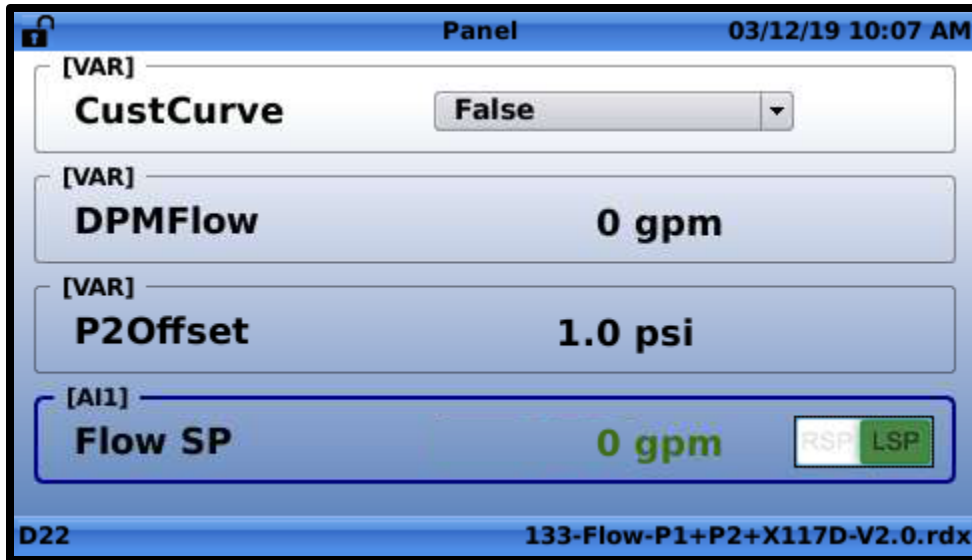

Figure 8.6
- Press "OK" so the "LSP" is highlighted in green as shown in **FIGURE 8.6**.